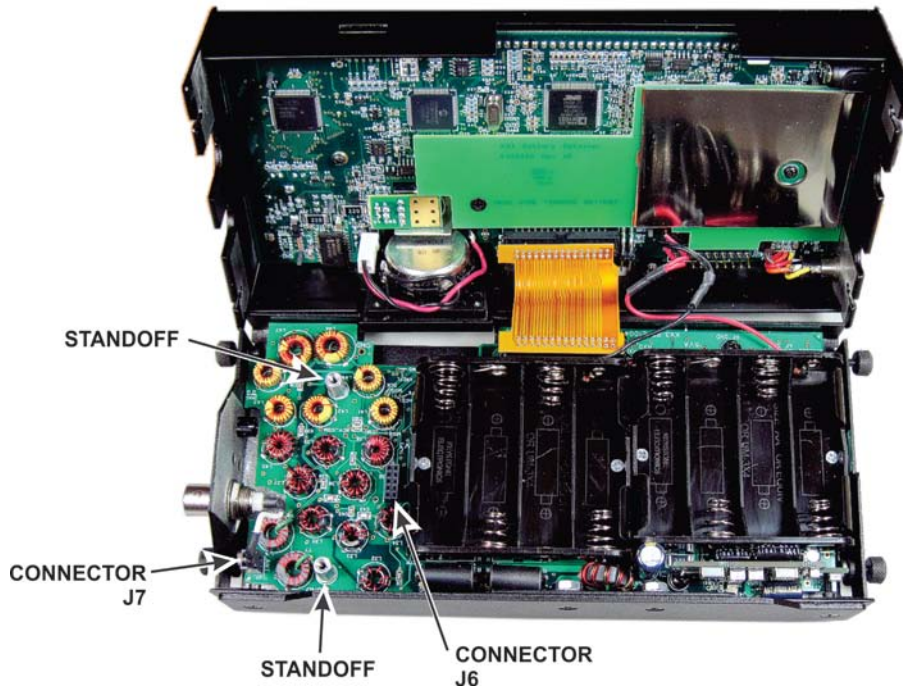

Figure 1. KXAT3 Installation Location in the KX3.
- The KXAT3 mounts over the exposed area of the RF board in the bottom cover next to the battery holders. It plugs into two connectors and is supported by two standoffs already installed in the KX3 (See Figure 1).